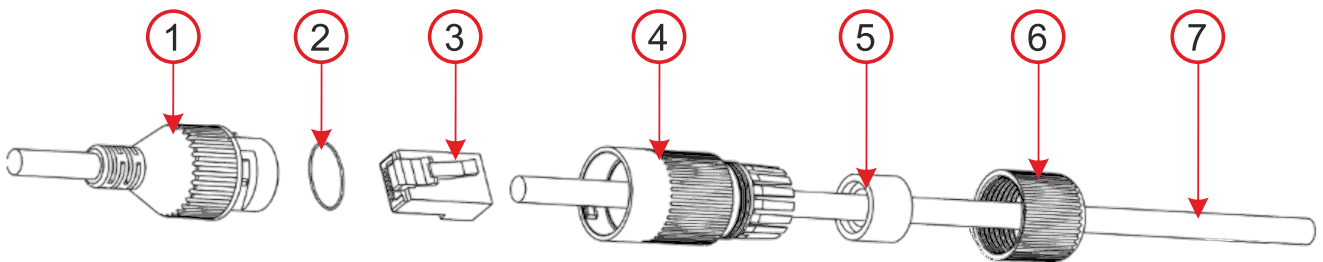

Fig. 4: How to fold the waterproof LAN connector cover
3. Drill holes in the selected location with a Ø 6mm drill bit and fix with dowels from the package. Open the mounting base by removing the screws. Depending on the selected cable feed method – centre or side (7), prepare a hole for running the cables. In case of side installation use the cable grommet (3, 4, 5) for the selected hole – (the cable grommet is included in the packing), use the blanking plug (6) for the unused one.
4. Pull the LAN cable through the back of the socket. Screw the back of the socket onto the selected place on the wall with the three screws provided in the packaging and crimp the RJ-45 connector with crimping pliers (see Fig. 4).
5. Plug the RJ-45 connector to LAN connector. Secure the connection with the waterproof cover (5) with the bayonet cap (3) and screw it tight. If the utilized router or switch does not provide PoE (power over Ethernet), connect the camera power connector to an external 12 V DC power supply (min. 0.5 A).